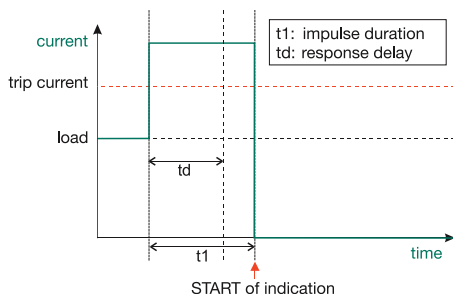

figure 9: permanent fault
The FLA3.1L is able to distinguish different fault types after detecting a short-circuit or earth-fault. If the network is permanently switched off (no current flow) the indicator will detect a permanent fault (please refer to figure 9.)
- 1. Permanent fault: A fault causes the net to switch off. The autoreclosers are not able to re-energize the net. (Please refer to figure 9.)